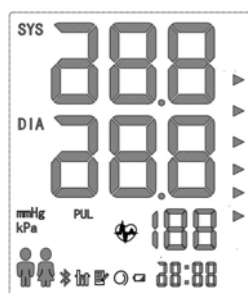

Fig 10
- 2) Turn on the **【ON/OFF】** button; display will lit-up for 1 second as shown on Fig 10.